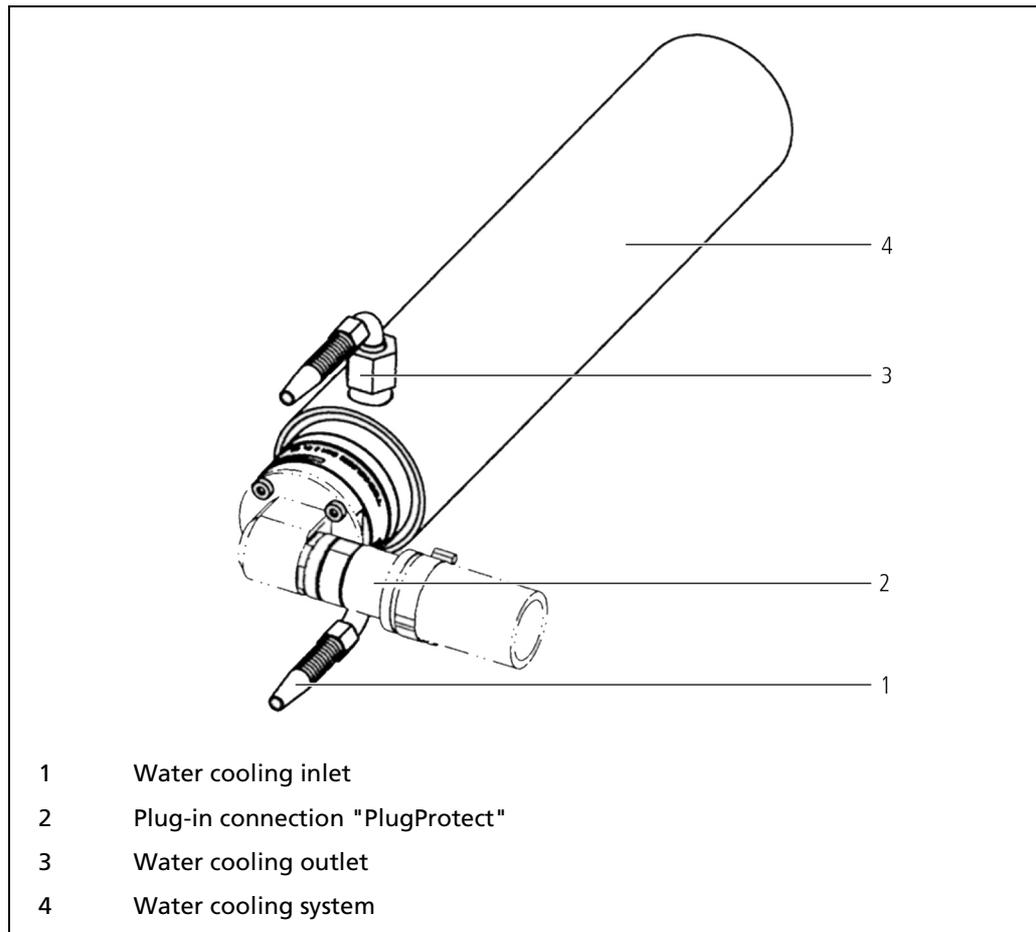

Fig. 4 GAMMAcast detector LB 6739 or LB 6750 with water cooling system
Please make sure that the water is drained at the highest point, as shown in (Fig. 4, pos. 3 and Fig. 5, pos. 4).
When fixing the GAMMAcast detector to the water cooling system, please make sure that the discharge nozzle on the mould is at the highest point (Fig. 4, pos. 3 and Fig. 5, pos. 4).
2. Connect the inlet and outlet of the cooling water to the GAMMAcast detector (LB 6739 / LB 6750: Fig. 4, pos.1 and 3; LB 6752: Fig. 5, pos.3 and 4).